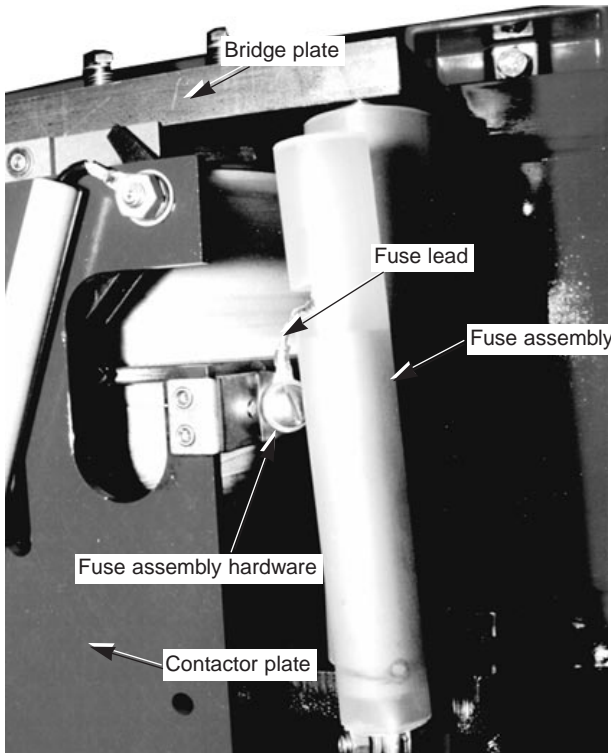

Figure 12.
2. Attach the two fuse assemblies to the contactor plate. Use the hardware attached to the fuse assemblies (refer to Figure 12).
3. Train the fuse leads as shown the Figure 12.